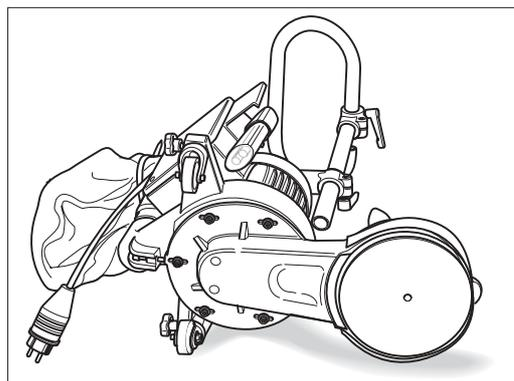

Fig. 55: Place the UNICO down on the **left-hand** side only.
**Always** set the UNICO down on the **left-hand** side (Fig. 55)! This will prevent damage to the floor, and the shape of the fan housing also stops any dust falling back out of the dust bag from getting into the fan housing.